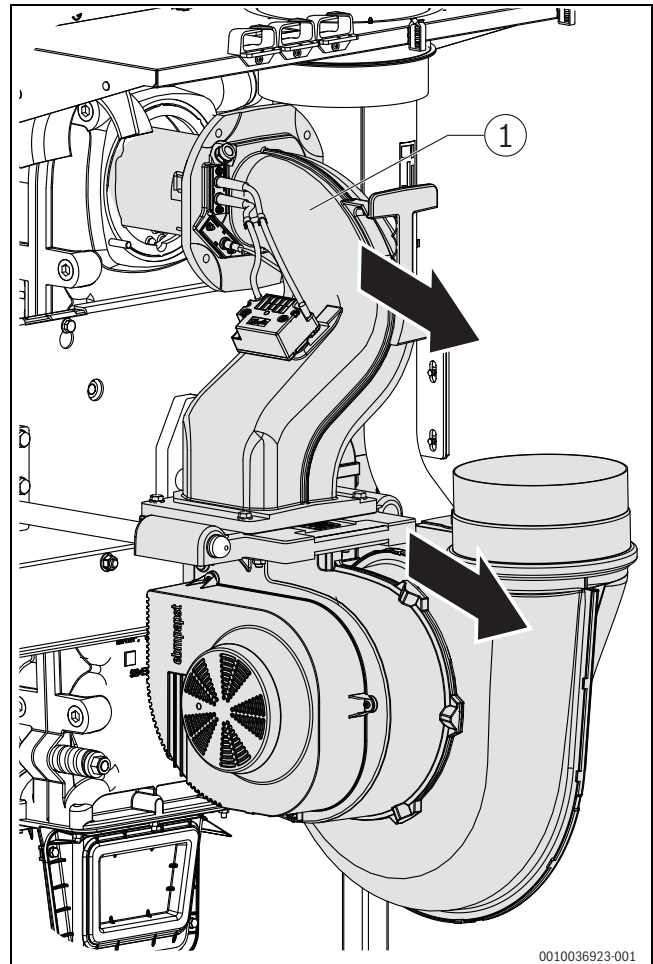

Fig. 59 Pull the burner back
- Pull the mixture manifold with burner rod and fan back to the end position (O-ring on the guide pin) (→Fig. 59).